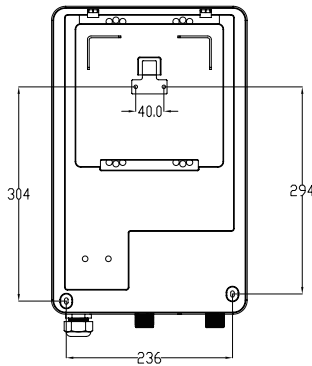

Figure 2
- 2.1. Determine the installation position of the water heater. The height of the hole from the ground is 1.5 ~ 1.7 meter, Use a hammer drill ($\phi 6\text{mm}$ bit) to drill 4 holes 30mm deep (this depth shall not exceed the thickness of the wall) on the load-bearing wall, and measure the spacing between the holes and the spacing of the hanging plates. Then the rubber particles are completely driven into the wall hole, and the mounting plate is fixed on the wall with a pan head tapping screw. refer to Figure 2.